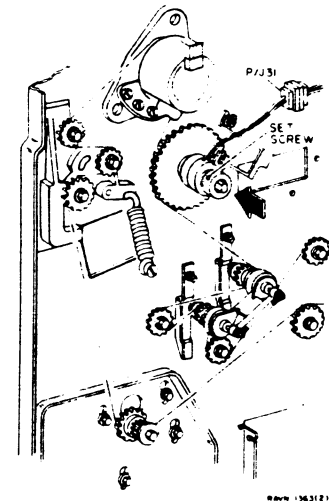

Figure 4. Adjustment of Registration Roll Clutch
4. PUSH ON COLLAR AND TIGHTEN SETSCREW (FIGURE 4).